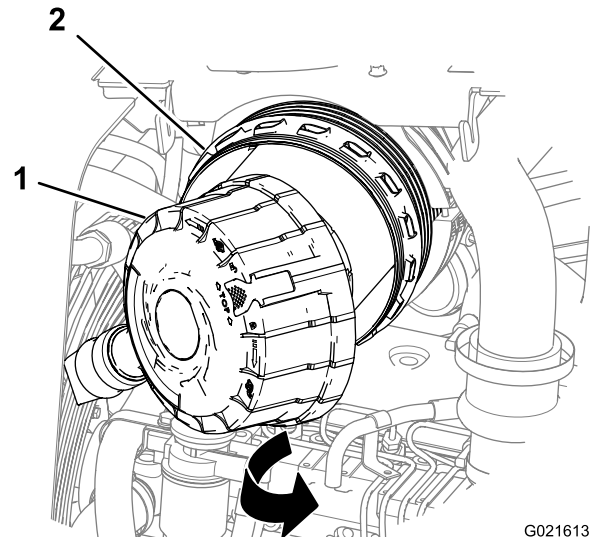

Figure 49
4. Pull the air-cleaner cover away from the cleaner housing to remove the cover (Figure 49).
2. Align the air-cleaner cover onto the cleaner housing (Figure 49).
3. Use a clean damp cloth to clean the inside of the cleaner housing (Figure 49).
3. Clean the inside of the cleaner housing with a clean, damp cloth (Figure 49).